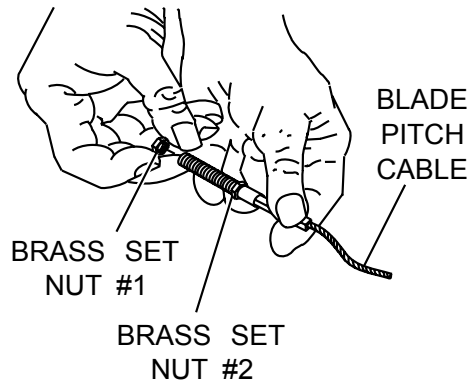

**Figure 9. Adjusting Cable Blade Pitch (Quick-Pitch™ Handle)**
2. For trowels equipped with a **Quick Pitch™ T-handle** (QXHC), simply squeeze the trigger lock and push the **T-handle** towards the engine to pitch the blades downward. Pushing the **T-handle** towards the engine will cause the blades to lay flat (Figure 9). This will release the tension on the blade pitch cable.
10. Adjust cable tension by loosening or tightening the locking nut and cable retaining screw on the throttle lever (see Figure 9).